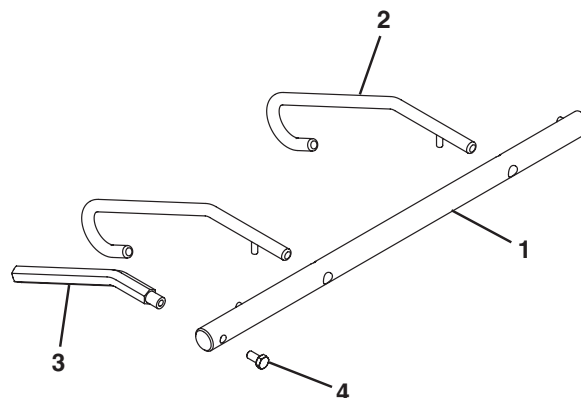

**Figure 26**
2. Place the sheet bed plates (Figure 26, item 1) over the wear strips (Figure 26, item 2).